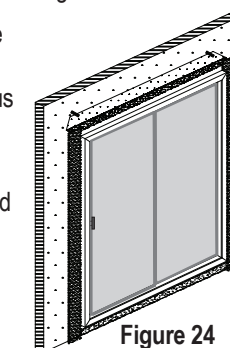

Figure 24
A) Cut two pieces of self-adhered flashing for the jambs that extend a minimum of 1" above the head mounting fin and a minimum of 1" below the sill flashing previously installed. Apply flashing over jamb mounting fins. Use a J-roller to remove bubbles or creases. **See Figure 24**